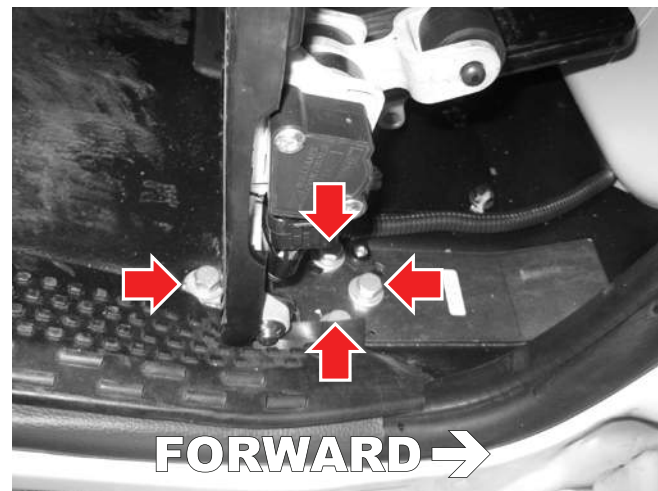

Figure 5-1
- Remove the 4 bolts used to mount the throttle pedal to the floorboard of the cab, and discard. Set aside the throttle pedal for reinstallation (see Figure 5-1).